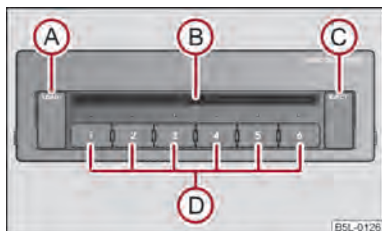

Fig. 113 The CD changer
- Touch the button **A** ⇒ fig. 113 and guide the CD (compact disc) into the CD-case **B**. The CD is automatically loaded onto the lowest free position in the CD changer. The LED in the corresponding button **D** stops flashing.